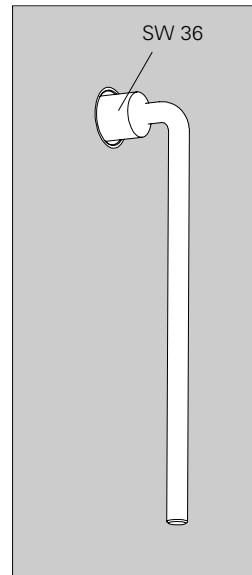

Fig. A5.12
4. Screw out the Screw-On Cone-2 M24/DW 20 by hand. (Fig. A5.12 + A5.13)